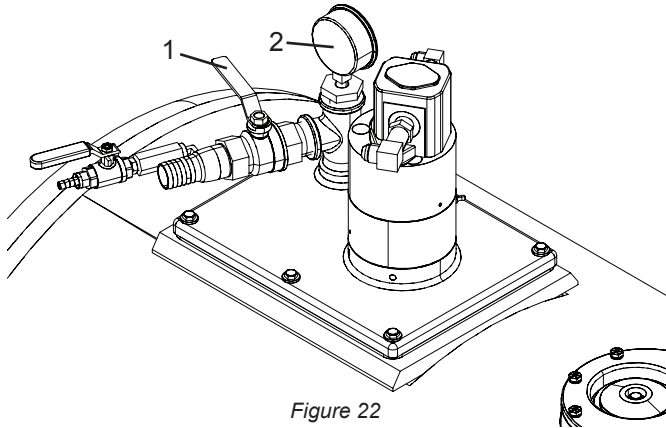

Figure 22
- Increase truck engine speed to increase water pressure. DO NOT exceed 80 psi (552 kPa) water pressure, approximately 1200 rpm engine speed. See the water pressure gauge (Figure 22, Item 2) mounted on the top of the tank.
- Turn the water valve (Figure 22, Item 1) to the ON position to deliver water to the wash hose or the drum fill nozzle.